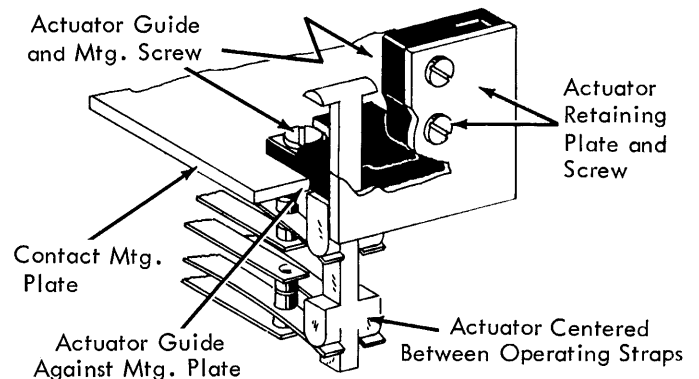

FIGURE 41. Actuator Guides
2. Actuator Guides (Fig. 41) - Mount squarely against the rear edge of the contact mounting plate with the actuators centered between the contact operating straps. The actuator guide and contact mounting screws must both be loosened for this inter-related adjustment.